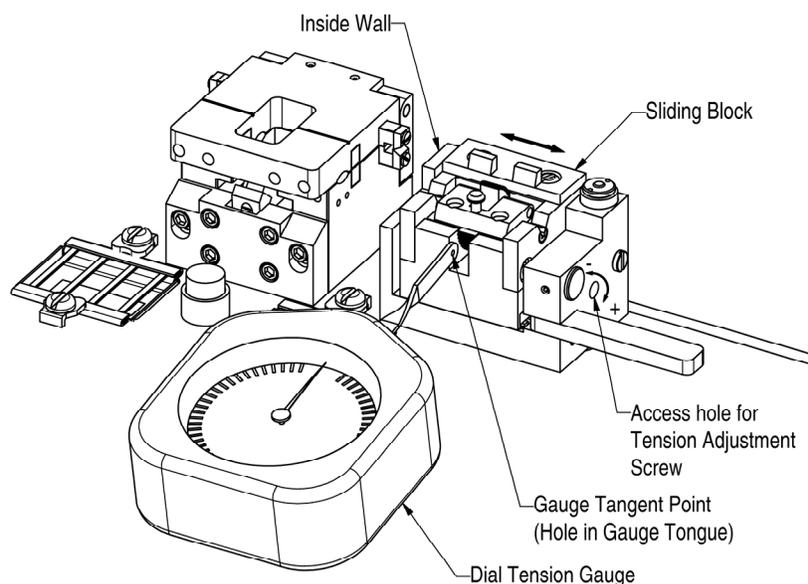

Figure 53 Adjust Cleave Tension
3. Engage the dial tension gage with its tangent point on the sliding block of the FHB as shown in Figure 53. "Pre-load" the tension gauge until it reads slightly below the desired cleave tension.
5. If the cleave tension needs adjustment, access the tension screw with a 0.050" hex key through the access hole in the FHB (Figure 53). Increase the tension by turning the screw clockwise; decrease the tension by turning the screw counter clockwise. One full turn of the screw adjusts the tension approximately by 20 grams.